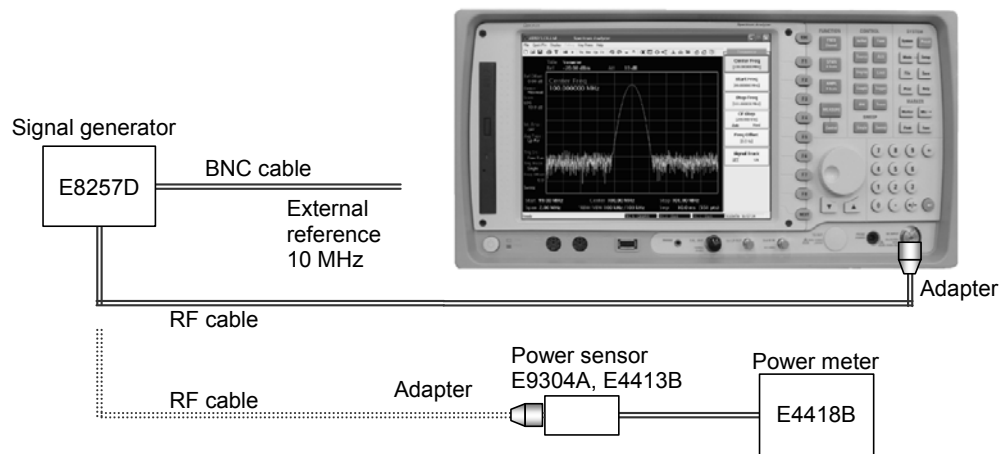

Fig. 6-9 Frequency response test
- 2 Connect the power sensor to the signal generator with the RF cable and adapter as shown in Fig. 6-9.
- 8 Connect the power sensor to the test equipment with the RF cable and adapter as shown in Fig. 6-9.